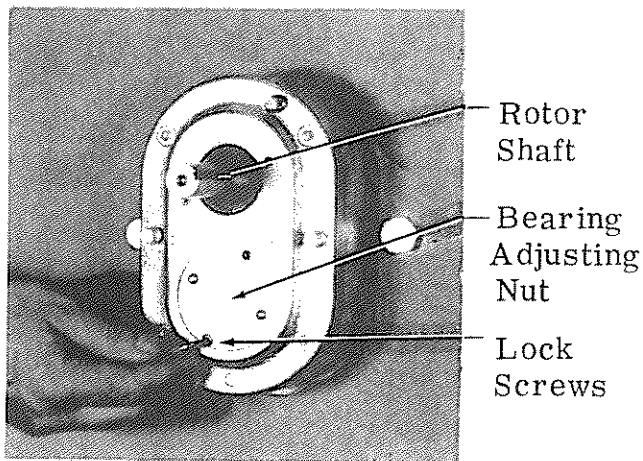

Fig. 3a
- a. Remove the Lock Screw in each of the Bearing Adjustment Nuts (Fig. 3a).